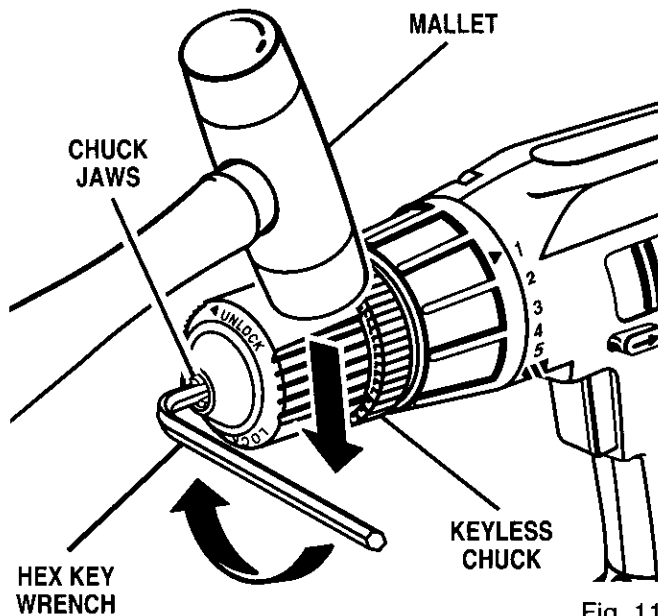

Fig. 11
See Figures 11, 12, and 13.
- Tap the hex key wrench sharply with a mallet in a clockwise direction. See Figure 11. This will loosen the screw in the chuck for easy removal.